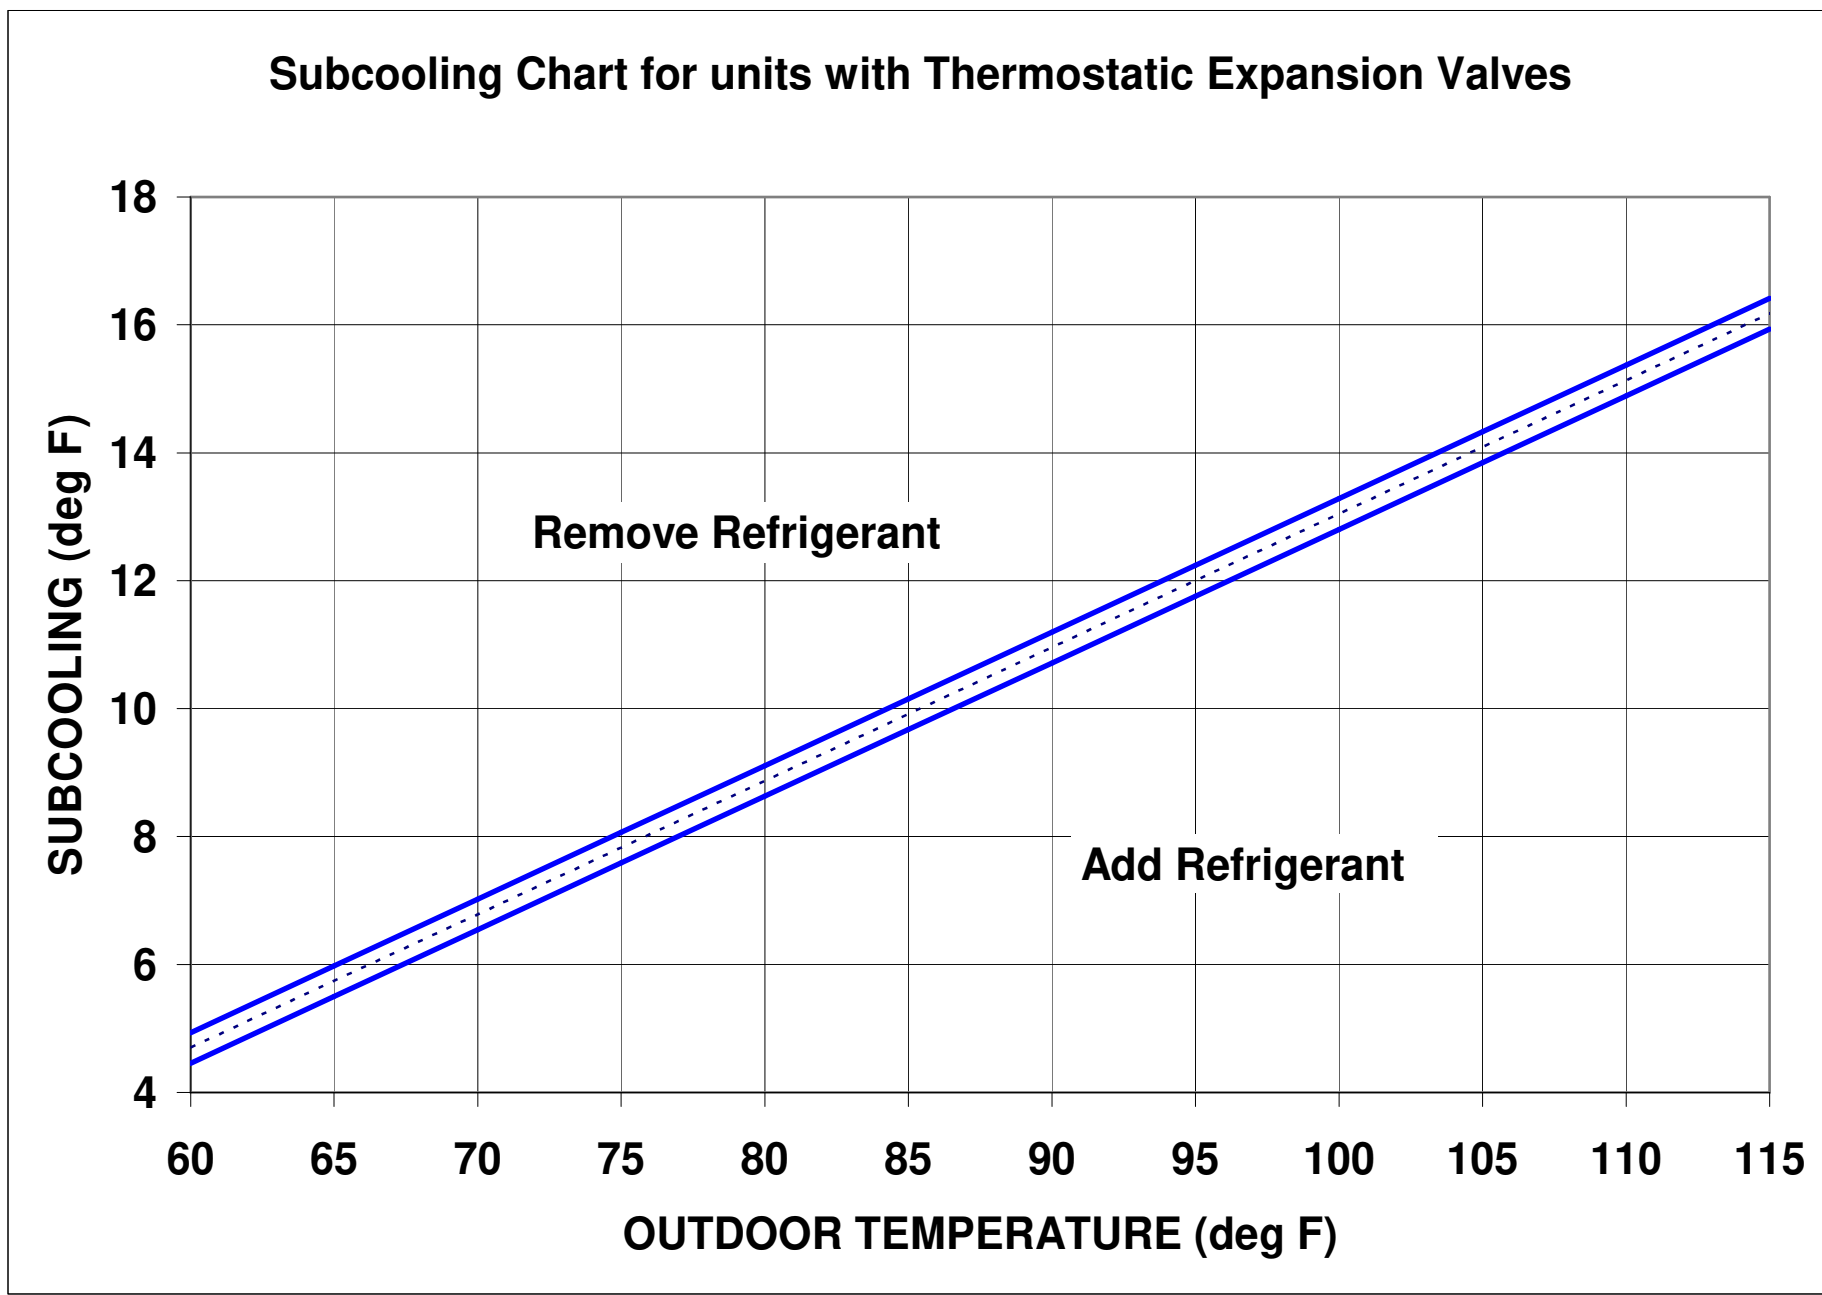

Figure 3. Subcooling Charging Chart
4. Subtract T3 from T2. (T2 – T3) This is the subcooling value. Compare this value and the outdoor temperature (T1), to the chart on page 8 (Figure 3). If the value is below the line, add refrigerant. If the value is above the line, remove refrigerant charge.